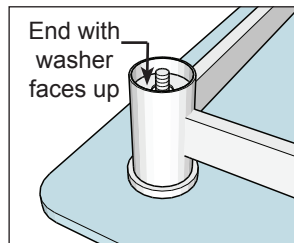

Figure 2
4. Place leg post frame over the threaded rods. Note there is a washer inside each corner tube. These washers must face up when placing the frame on the glass, as shown in figure 2.